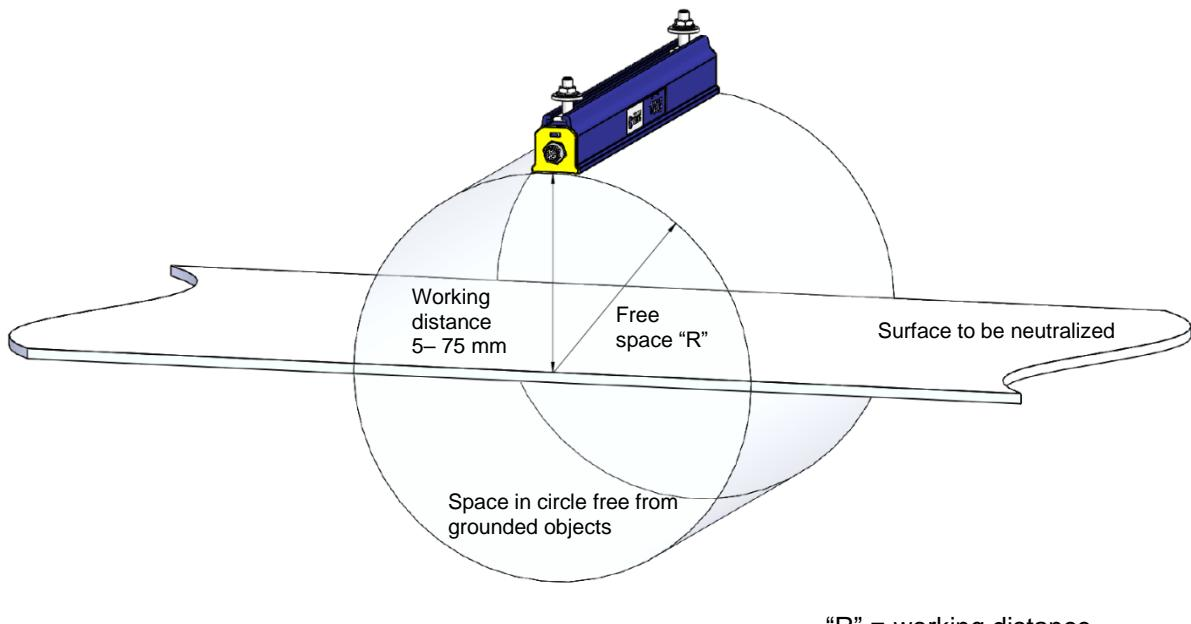

Figure 3: Optimal position Vicinion
- **For optimal results, the anti-static bar must be mounted according to figure 3.**